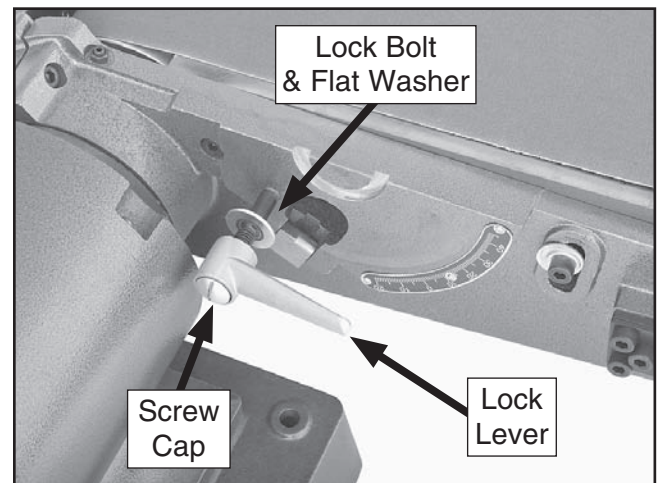

Figure 12. Sanding belt lock lever.
1. Unthread the screw cap on the sanding belt table lock lever, remove the lever, then unthread the lock bolt and flat washer from the sander (see **Figure 12**).